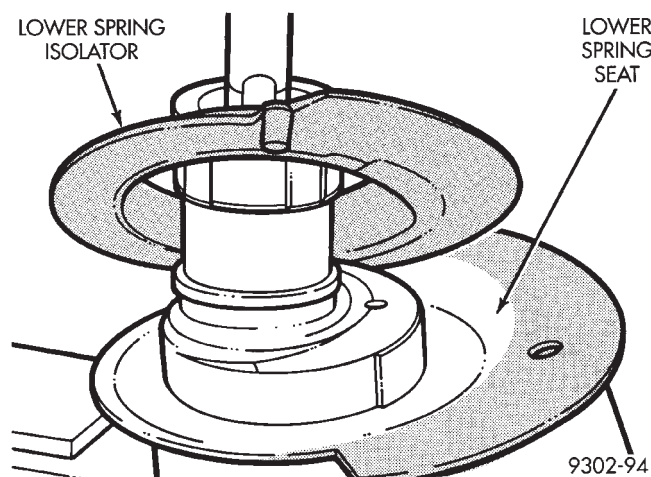
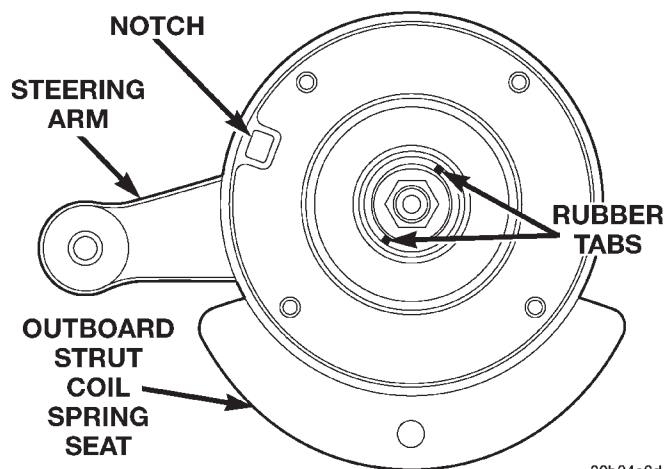
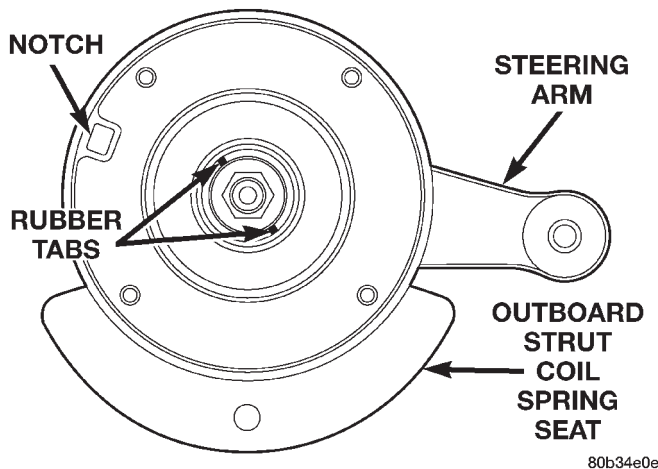

**Fig. 65 Spring Isolator**
**Fig. 66 Left Front Strut Upper Mount**
Fig. 67 Right Front Strut Upper Mount
(5) Remove the upper strut mount assembly, bearing and seat, dust shield, and coil spring, from the strut as a unit.
(6) Remove the jounce bumper, and jounce bumper cup, from the strut.
(7) Carefully release the spring compressor tension on the coil spring.
(8) Remove the coil spring from the strut.
(9) Remove the coil spring isolator from the lower spring seat on the strut (Fig. 65).
(1) Install the original, or a new if required, lower spring isolator on the strut (Fig. 65). Tabs on the isolator will align it on the strut spring seat.
(2) Install the original, or a new if required, upper spring isolator on the bearing and seat.
(3) Install the coil spring on the strut, setting it into the groove in the lower isolator provided for it.
(4) Compress the spring approximately the same amount it was compressed before removal.
(5) Position the seat and bearing assembly (with dust shield) on the top of the coil spring. The end of the coil spring should fit into the notch molded into the seat and bearing assembly, or align the paint marks made previously (if available).
(6) Install jounce bumper, and jounce bumper cup, onto shaft of strut.
**CAUTION:** Before installing the upper mount, make sure the correct upper mount is being installed on the strut. **DO NOT** install a right mount on a left front strut or a left mount on a right front strut. Incorrect mount installation may cause poor vehicle ride and steering feel, and excessive front end noise. A lead or drift condition may also be the result. Left and Right mounts look similar, but are different from one another. Looking down at the top of the upper mount, 2 tabs can be seen, (Fig. 66) and (Fig. 67), down inside the mount center well. A rectangular hole can be seen on the edge of the mount mounting surface (Fig. 66) and (Fig. 67). This is always in the 10 o'clock position when observing rubber tab positioning, whether a left or right mount is being observed. Once this hole is located in the 10 o'clock position, the tabs should be in the positions as shown (Fig. 66) and (Fig. 67). The right upper mount should also have a white dot painted on its mounting face.